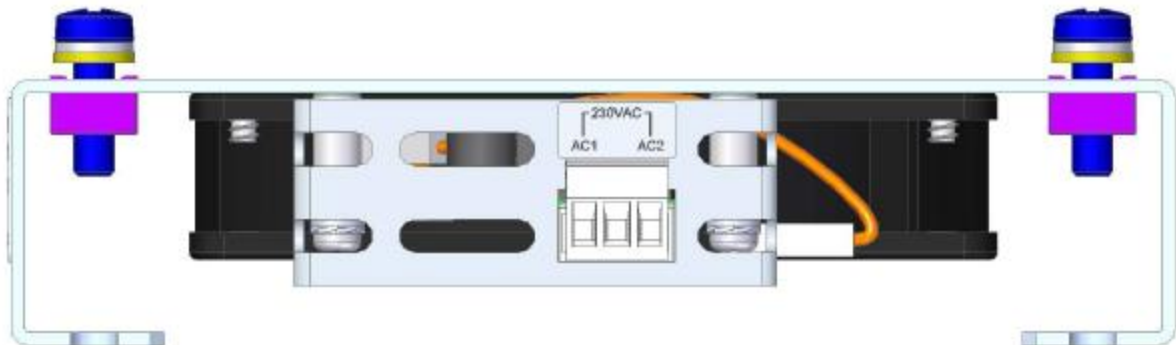

Figure 39: Fan power connection
Step 5: Connect power to the fans. Refer to Figure 39.